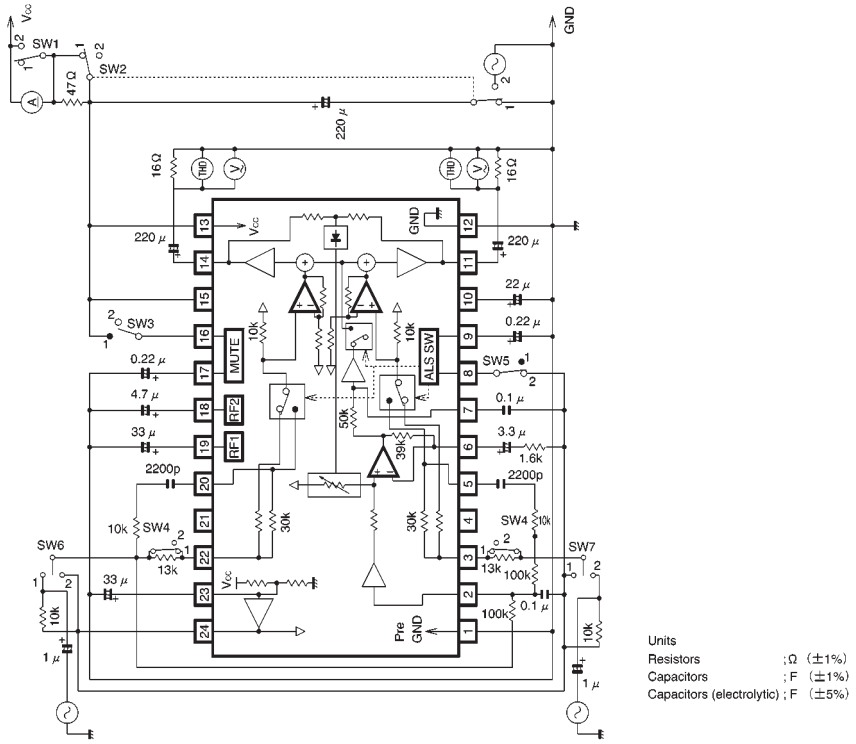

Fig.1
- Electrical characteristics (unless otherwise noted, $T_a = 25^\circ\text{C}$, $V_{CC} = 3.0\text{V}$, $R_L = 16\Omega$, $f = 1\text{kHz}$, and the measurement circuit is as shown in Fig. 1)